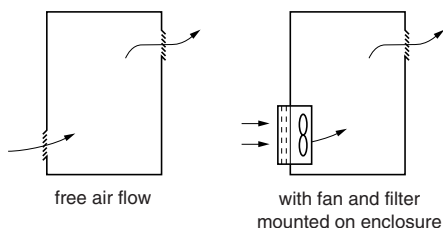

Figure 10: Ventilation for General Purpose Enclosures
- Provide ventilation inlets and outlets in the enclosure as shown in Figure 10.